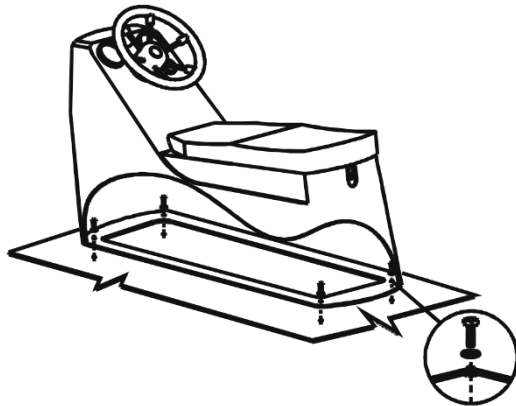

Fig. 7. Installation of steering console CS-03.
- Fix steering console to the deck by means of bolts M8*25 and toothed lock washer (see Fig.7).
To inflate the tube chambers, use the foot pump (fig.7) supplied.